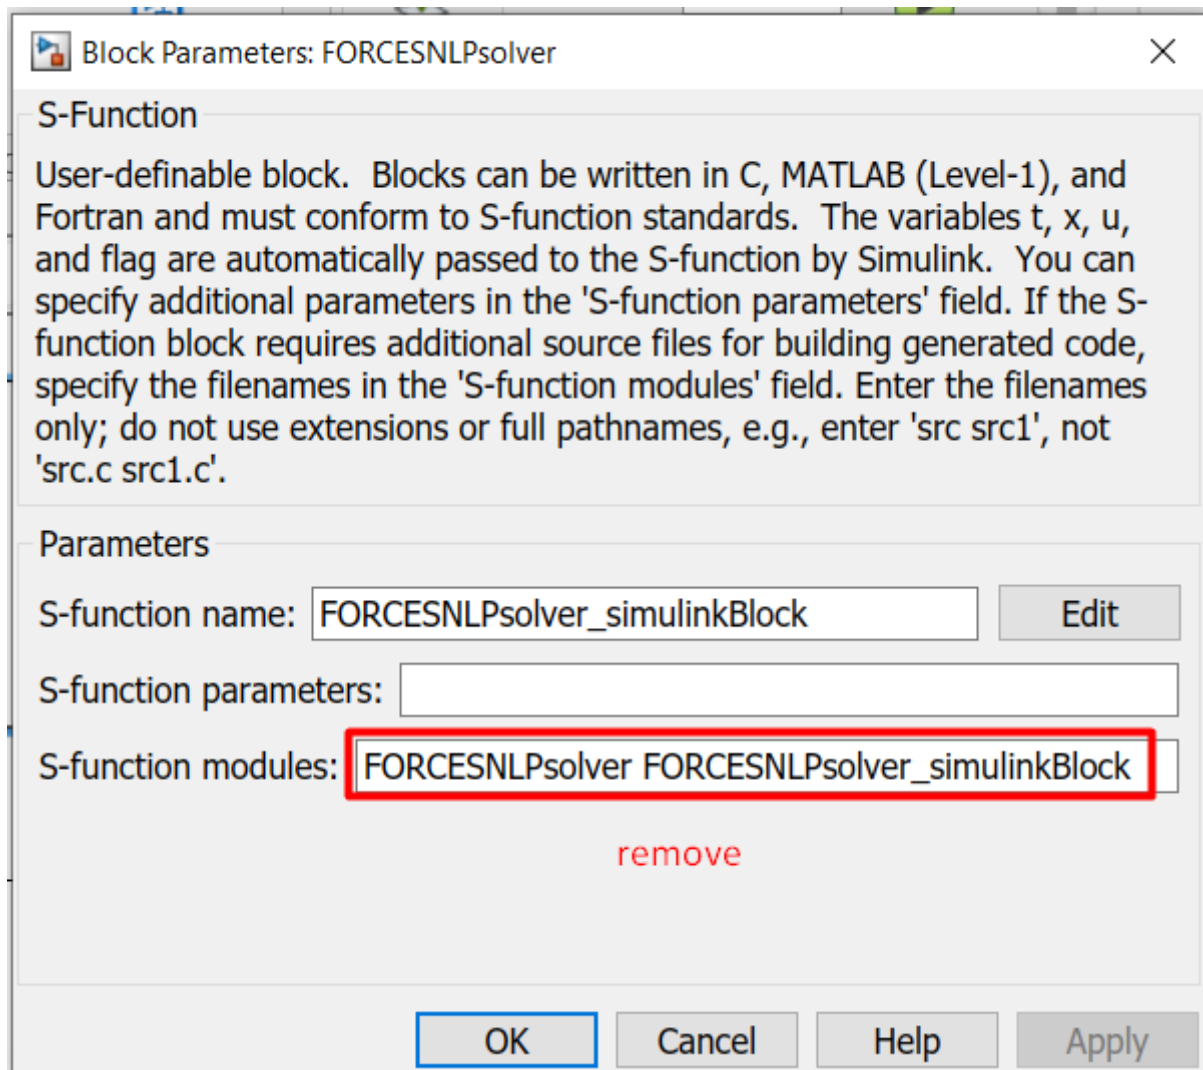

Figure 13.100: Remove the default data from the S-function module.
14. (Figure 13.100) Remove “FORCESNLPsolver” and “FORCESNLPsolver_simulinkBlock” from the S-function module.